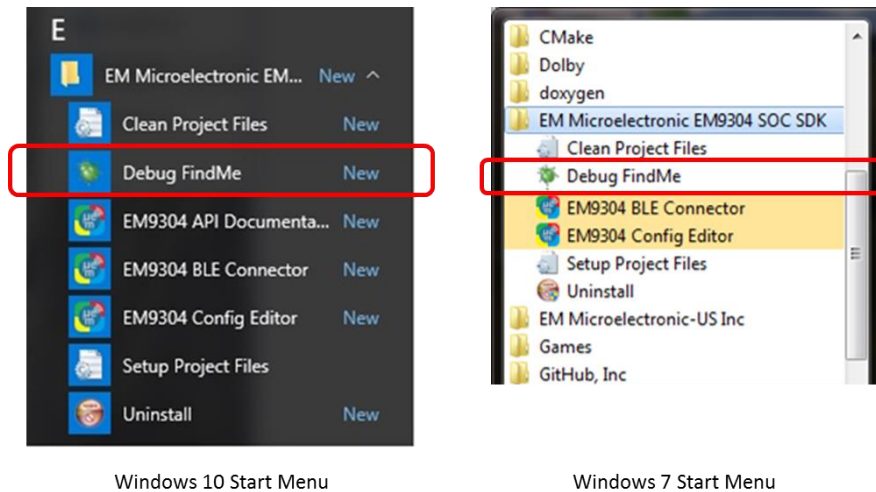

Figure 36 Launch the standalone debugger for the FindMe example application.
3. It may take approximately 30 seconds for the debugger to load. The bottom right corner of the main debugger window will blink the word, "Busy..." while the loading process is underway. At the same time, the DOS command window that was launched when the Metaware Debugger was launched will show activity as well. Once loaded, the debugger will halt at the entry function of the FindMe example application as shown in Figure 36.